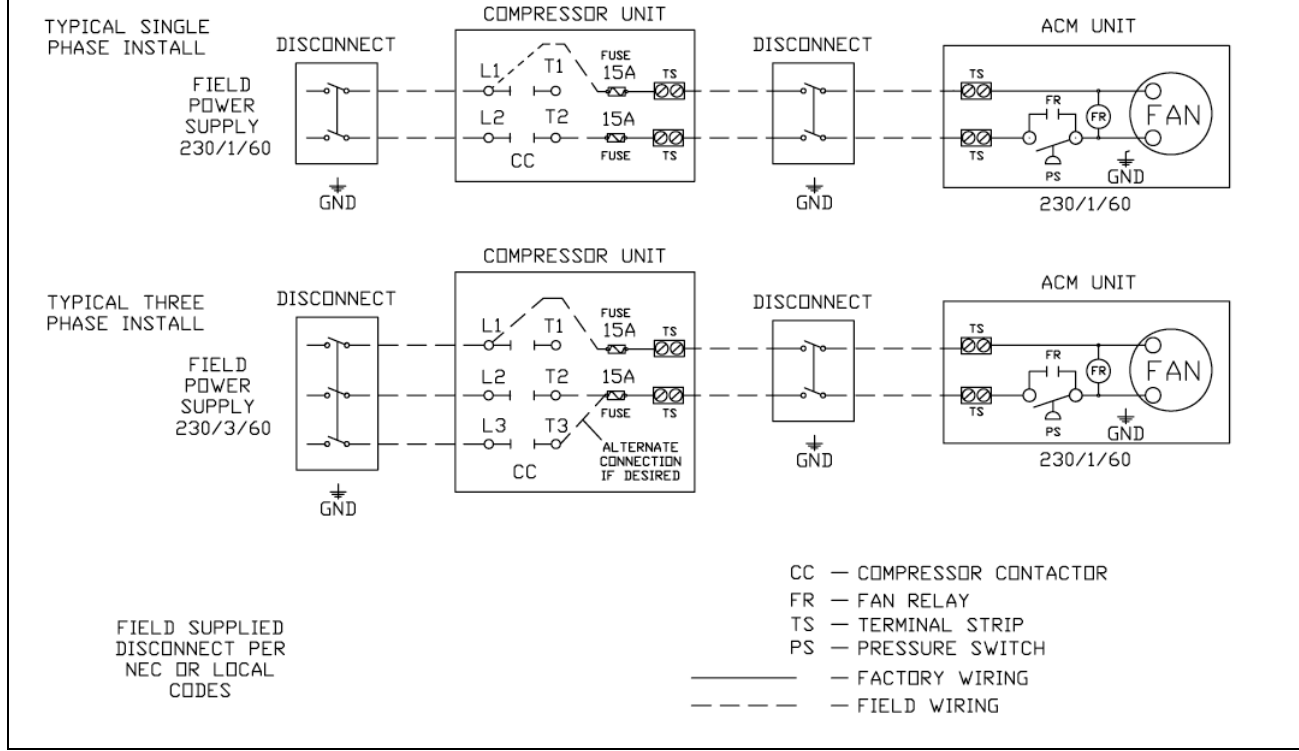

Figure 6. Auxiliary Cooling Module Field Wiring
9. Run high voltage wiring from the two-pole terminal strip in the electrical box out of the grommeted end hole of the electrical box and through the conduit connection of the compressor cabinet, to the Disconnect shown in Figure 6, and from the Disconnect to the Auxiliary Cooling Module, using flexible conduit.
Figure 6 illustrates the electrical connections that are to be made at the ACM electric box with the two high voltage leads from the compressor unit.